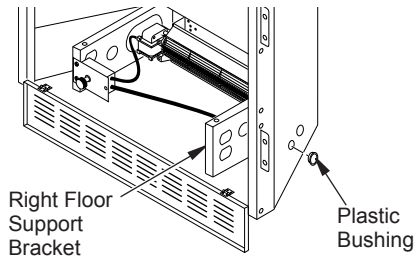

Figure 21 - Installing Plastic Bushing for Power Cord (Right Side Exit Shown)
- If your firebox is installed as a free-standing unit with an accessory mantel,** determine whether the power cord will exit the left side or the right side of the firebox. Install one plastic bushing provided into the 1 1/2" hole in the floor support on the exit side. Install the second bushing provided into the 1 1/2" hole in the outer casing through which the power cord will exit (see Figures 21 and 22). Route power cord through plastic bushings and plug the power cord into a properly grounded three-prong wall receptacle near the firebox.